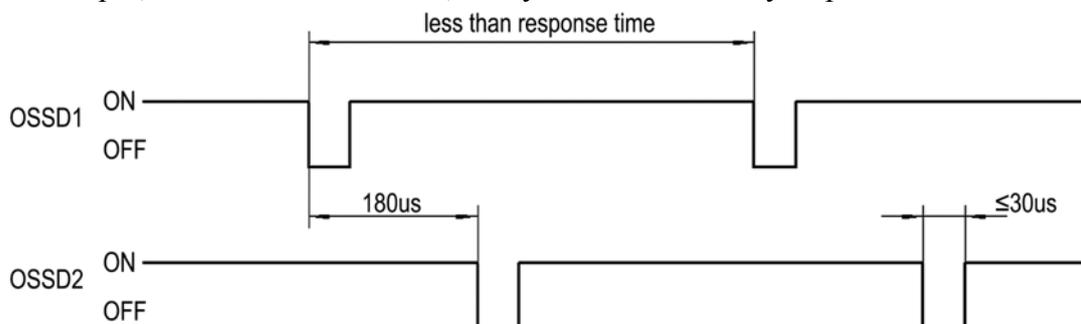

Fig 2.3.1 Security Output Detection Diagram
- While CT4 light curtain is in light-passing state, OSSDs outputs ON-state signal with periodical OFF-state signal, as shown in Fig 2.3.1. When OSSDs output circuit failure or be shorted with other interface signals, the detect signal varies, and feedback wrong state, the system turns into lockout state, the fault indicator flicker output, after the fault resolved, the system automatically steps out of the fault state.